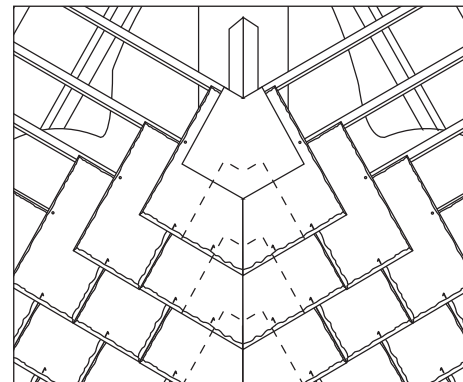

Fig. 19 – Close mitred hip with lead soakers
- 2 Fix roofing battens to the hip rafter and align on each slope. Insert lead soakers in every course up the hip (Fig. 19).